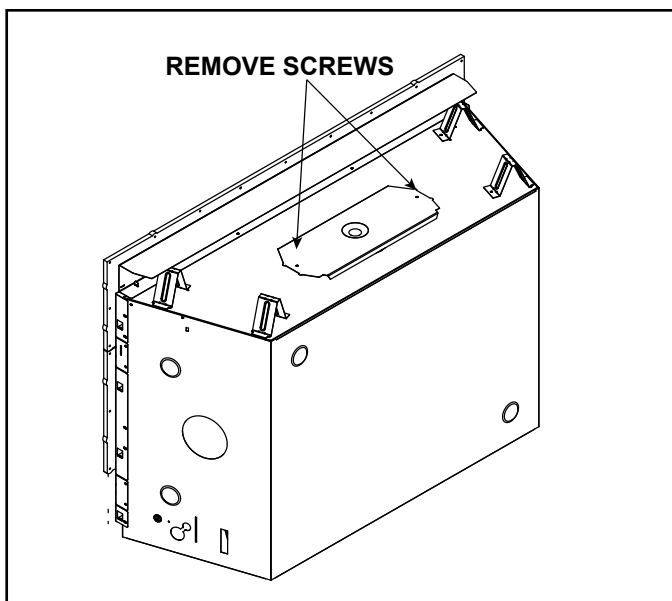

Figure 6.1 RAVE4013-IFT - Shipping Position
1. Remove two screws and discard. See Figure 6.1.